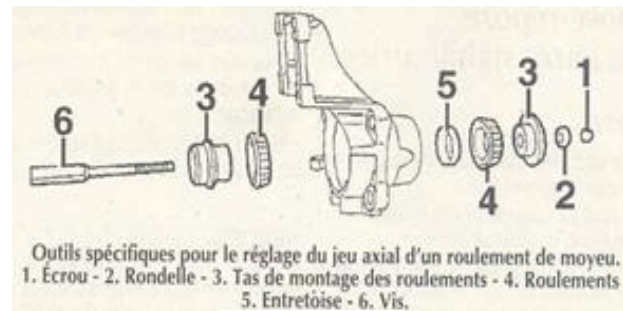

Figure 1
- 2) Install the adjustment tool (fig.1) and tighten the nut to 10 Nm; loosen it slightly and rotate the assembly in both directions, then re-tighten the nut to 10Nm